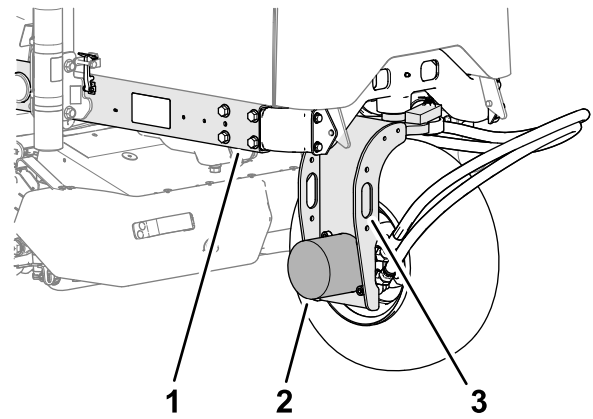

Figure 55
2. Secure the hoist to the tie-down loop of the rear-wheel fork (Figure 55).